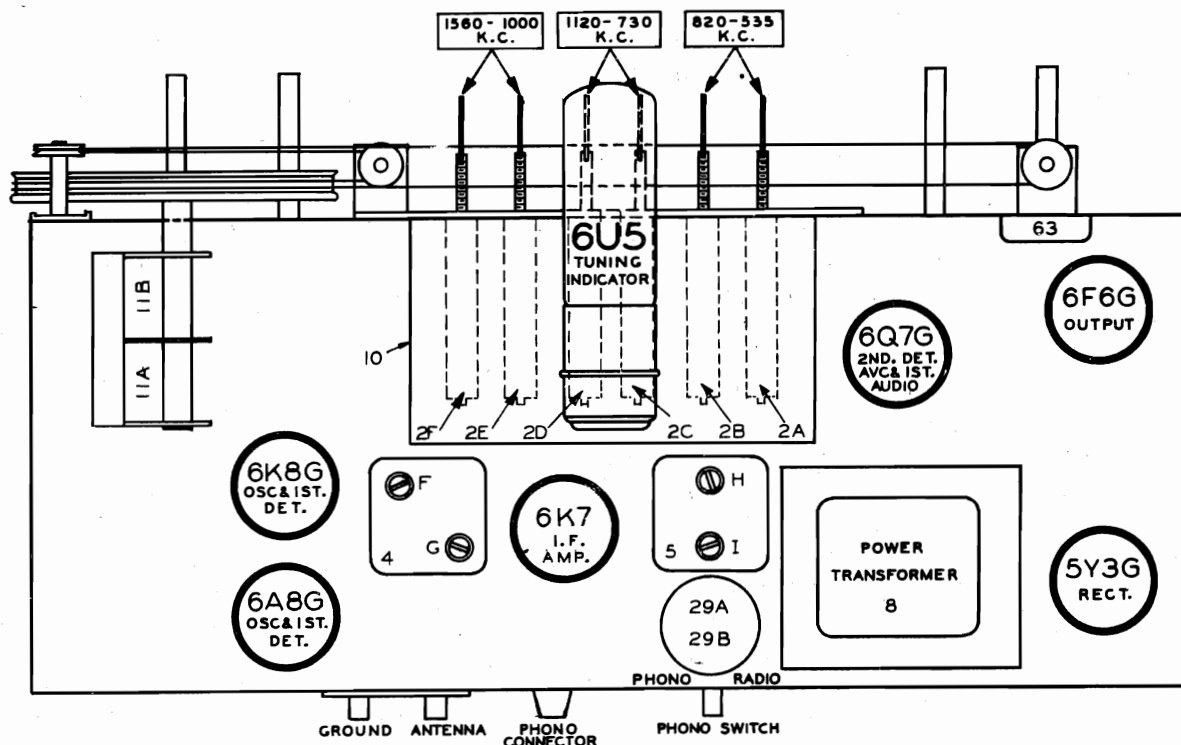

FIG. 3--PARTS LAYOUT--Top View
R1143 (ILLUS. D, FIG. 3)*
- (b) Rotate the variable plates of the condenser gang until the signal is tuned in. *FOR R1143 - SEE (ILLUS. FIG. 3)
- (c) Adjust the two-wire capacitor (illus. K, Fig. 4) by twisting, until a minimum output is obtained. *FOR R1143 - SEE (ILLUS. FIG. 3)